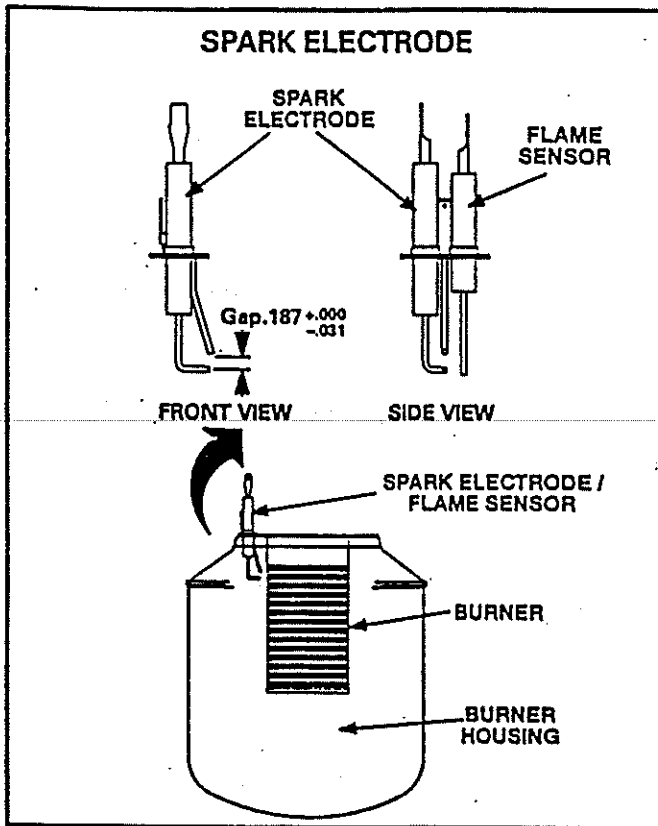

FIGURE 44
11. Check the gap in the spark electrode and regap if necessary. See Figure 44.